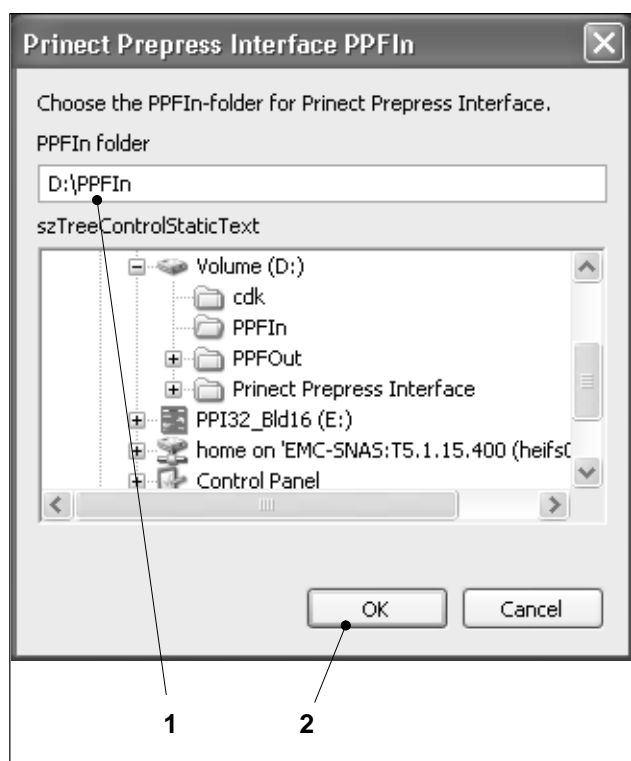

Fig. 26 Selecting the input directory
11. After a short time the *PPFin*. input window appears. Select the input directory for the PPF files here. The directory "D:\PPFin" is preset as standard (Fig. 26/1).
12. Click on *OK* to confirm your entry (Fig. 26/2). The installation continues.